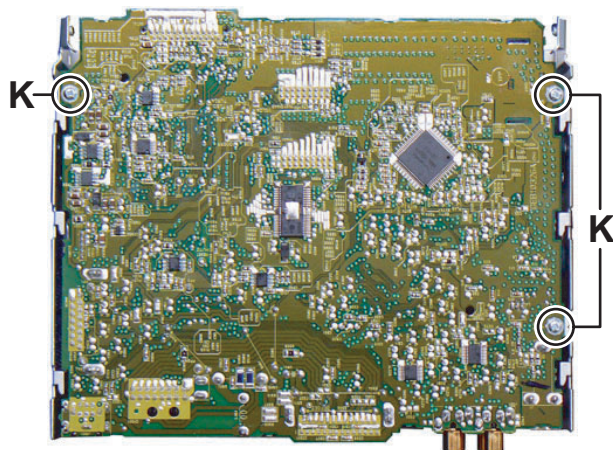

Fig.5
(2) Remove the 3 screws **K** attaching the Electric unit. (See Fig.5)